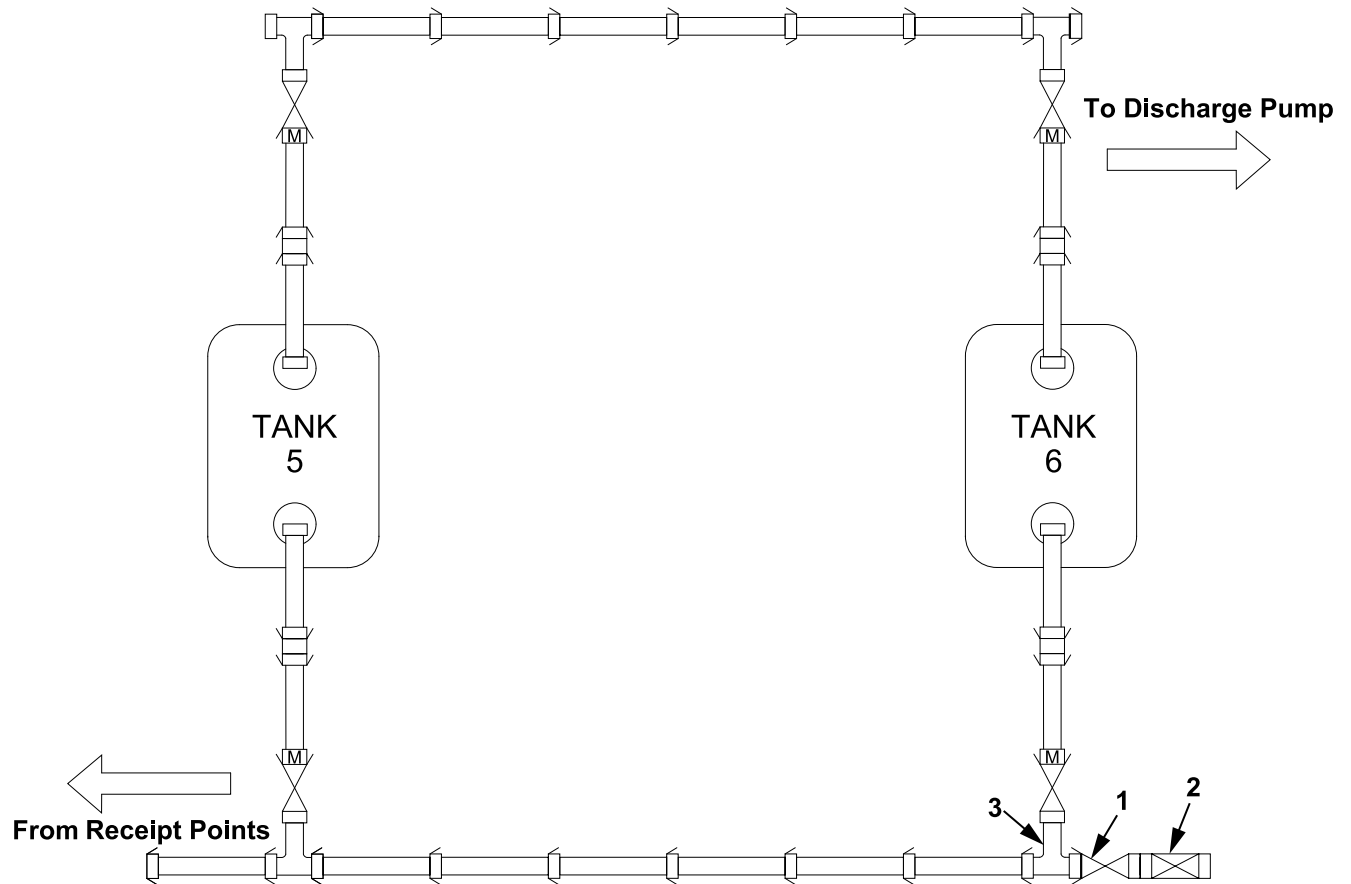

Figure 6. Installation of 2 In. Valved Dry-Break Adapter.
32. Connect a 4 in. X 4 in. gate valve (Figure 6, Item 1) to the female X male X male tee assembly (Figure 6, Item 3).
33. Connect a 4 in. male camlock X 2 in. valved dry-break adapter (Figure 6, Item 2) to 4 in. X 4 in. gate valve (Figure 6, Item 1).